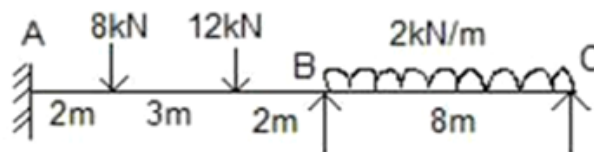

Fig.5
10. Analyze the continuous beam shown in Fig.5 by stiffness method. Assume uniform flexural-rigidity of beam AB and BC. $EI = 12 \times 10^{11}$ N-mm². [15M]